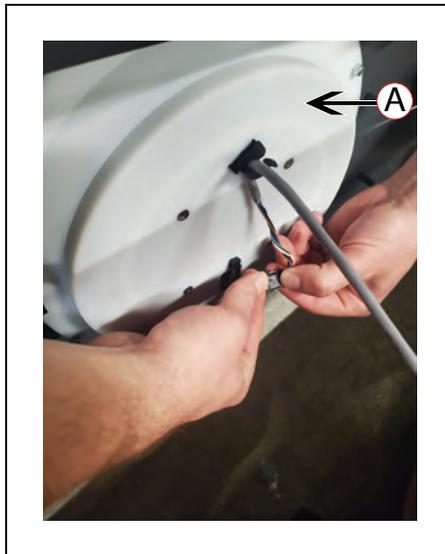
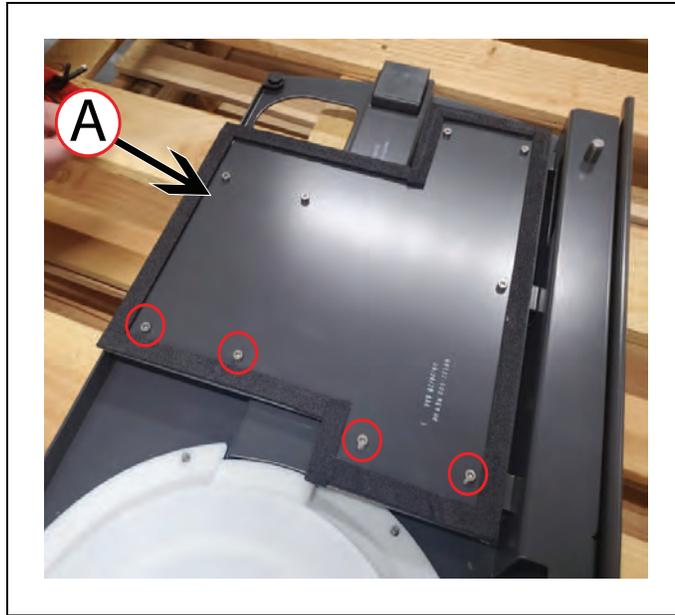

Figure 8-26. Disconnecting the Cable from the (A) LED Mount Plate
Figure 8-27. Removing Four Screws Holding the (A) Electronics Bay Cover Seal
3. Next, unscrew the four screws holding the electronics bay seal cover ((A) in Figure 8-27.) as shown in the following figure. This will allow the LED mount plate ((A) in Figure 8-26.) to come off once unscrewed from the skin.